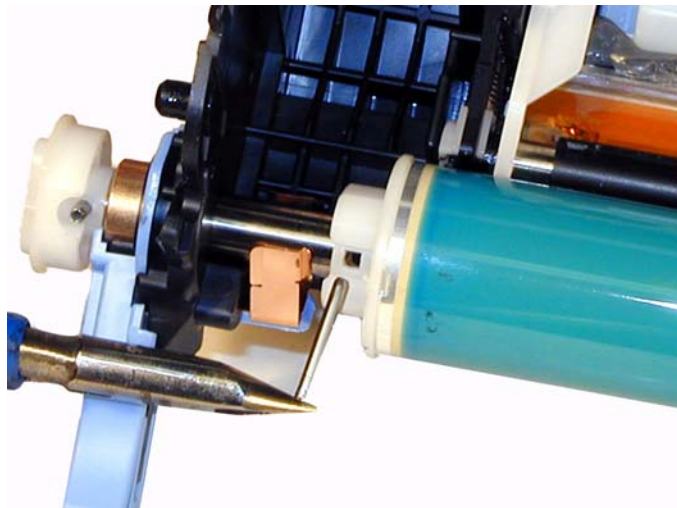

Figure 38
22) Align the drum hub and axle so that the holes line up. Insert the metal pin. Make sure the pin is centered on the axle. If the pin sticks out too far on one side, there is a plastic block on the waste chamber that will stop the drum from turning. Spin the drum a few rotations to make sure everything is OK. See **Figures 38 & 39**